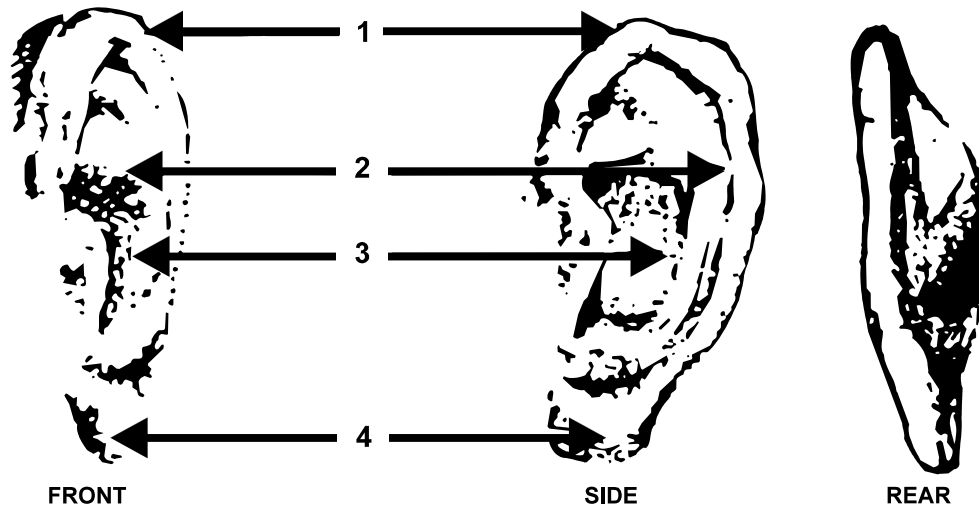

Figure K-16. The ear.
(1) The outer wider rim, the inner rim shaped like a bent Y, the bowl area, and the fleshy lobe are the four major shapes the ear. (See Figure K-16.)